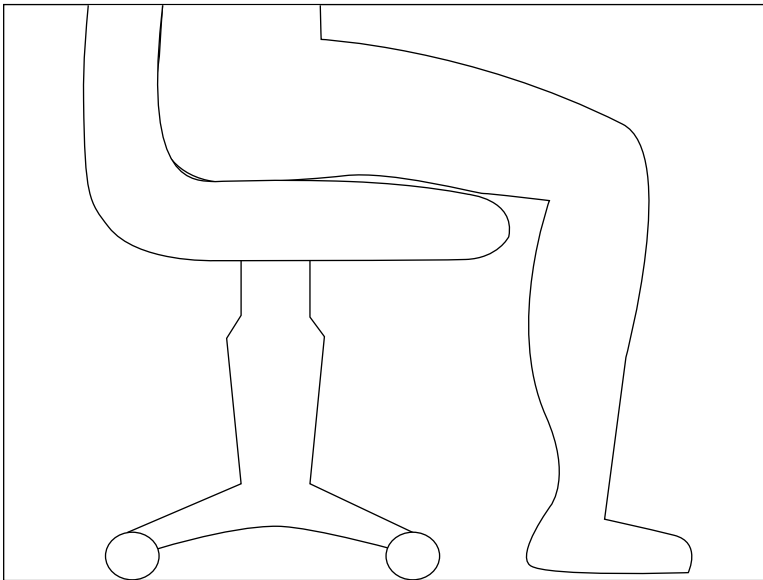

Figure 3-1:
- ✓ Make sure you get a chair with height adjustment and a proper back support. When seated with your feet flat on the floor, your upper legs should be level with the floor. (See Figure 3-1 for a complete visual of the ideal chair fitting.) **Note:** You may need to use a footrest to obtain this position.